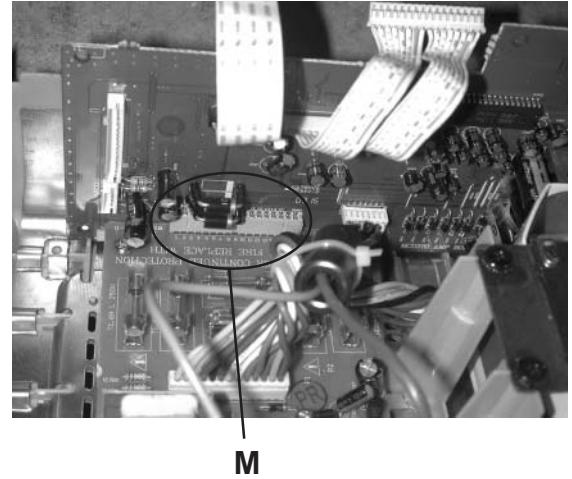

Figure 11
- 3) Unplug the connectors " M" that connect amplify board and power board as shown in Figure 11.